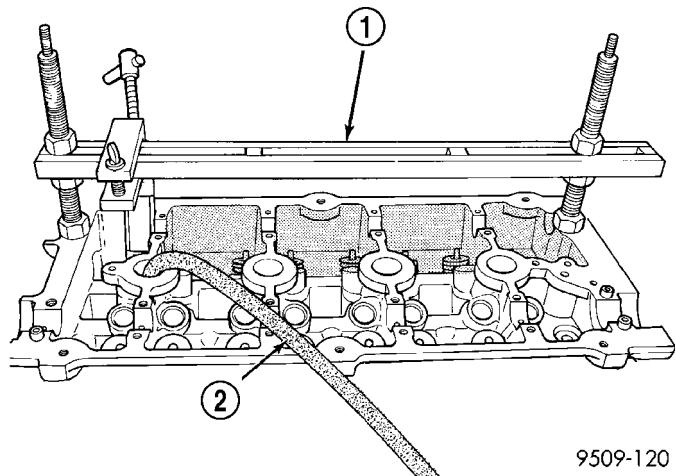
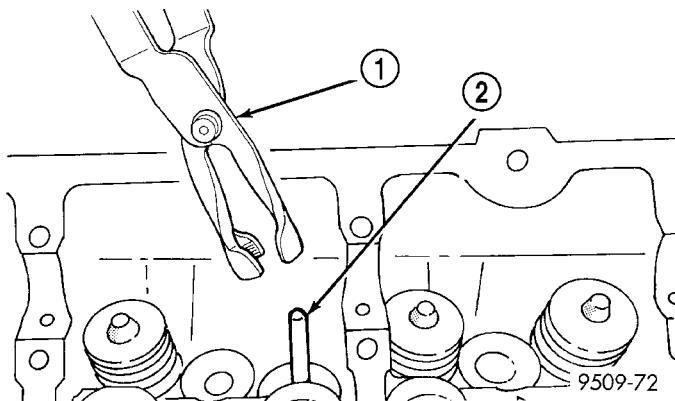

Fig. 33 Valve Spring - Removal/Installation
Fig. 35 Valve Stem Oil Seal Tool
(1) Remove cylinder head cover (Refer to 9 - ENGINE/CYLINDER HEAD/CYLINDER HEAD COVER(S) - REMOVAL).
(2) Remove camshafts (Refer to 9 - ENGINE/CYLINDER HEAD/CAMSHAFT(S) - REMOVAL).
(3) Rotate crankshaft until piston is at TDC on compression.
(4) With air hose attached to adapter tool installed in spark plug hole, apply 90-120 psi air pressure.
(5) Using Special Tool MD-998772-A with adapter 6779 (Fig. 33), compress valve springs and remove valve locks.
(6) Remove valve spring(s).
(7) Remove valve stem seal(s) by using valve stem seal tool (Fig. 35).
(2) Install valve spring and retainer, use Special Tool MD-998772-A with adapter 6779 to compress valve springs only enough to install locks (Fig. 33). Correct alignment of tool is necessary to avoid nicking valve stems.
(3) Remove air hose and install spark plugs.
(4) Install camshafts (Refer to 9 - ENGINE/CYLINDER HEAD/CAMSHAFT(S) - INSTALLATION).
(5) Install cylinder head cover (Refer to 9 - ENGINE/CYLINDER HEAD/CYLINDER HEAD COVER - INSTALLATION).
(1) Coat valve stems with clean engine oil and insert in cylinder head.
(2) Install new valve stem seals on all valves using a valve stem seal tool (Fig. 35). The valve stem seals should be pushed firmly and squarely over valve guide.